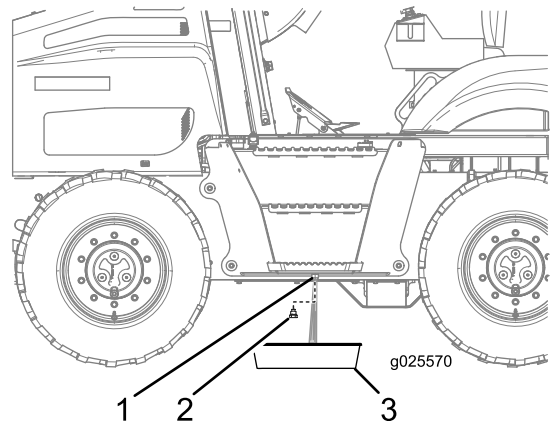

Figure 71
3. Unscrew the drain plug from the fuel tank and drain the water (Figure 71).
4. When clean fuel appears, install the drain plug and tighten it securely (Figure 71).